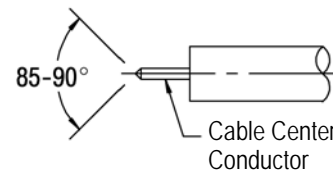

Figure 3
- File the blunt end of the cable center conductor to a cone between 85° to 90°. Refer to Figure 3.